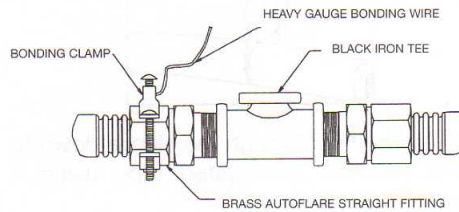

Figure 4-21
- For bonding of the **TracPipe**® system, a bonding clamp must be attached to the brass AutoFlare® fitting adapter (adjacent to the pipe thread area – see Figure 4-21) or to a black pipe component (pipe or fitting) located in the same electrically continuous gas piping system as the AutoFlare® fitting. The corrugated stainless steel portion of the gas piping system **SHALL NOT** be used as the bonding attachment point under any circumstances. Bonding electrode conductor sizing shall be in accordance with Article 250 (Table 250-66) of ANSI/NFPA 70. The bonding is a requirement of the National Electrical Code.